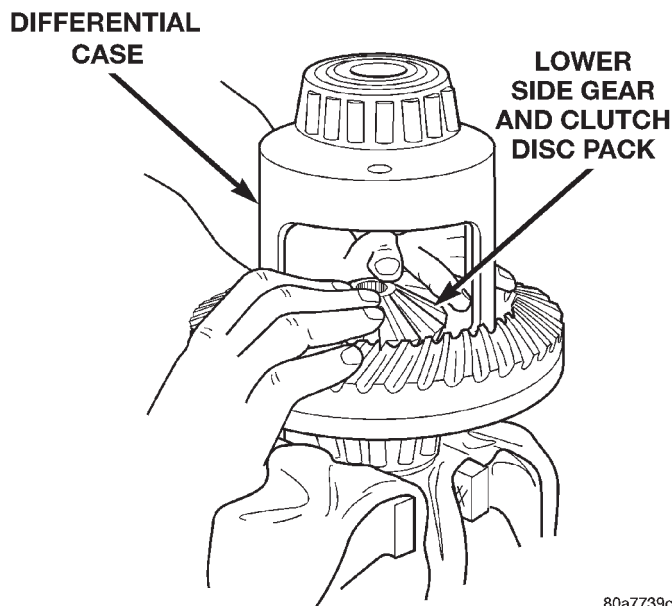

Fig. 65 Clutch Discs & Lower Side Gear Installation
(2) Position assembled clutch disc packs on the side gear hubs.
(3) Install clutch pack and side gear in the ring gear side of the differential case (Fig. 65). **Be sure clutch pack retaining clips remain in position and are seated in the case pockets.**